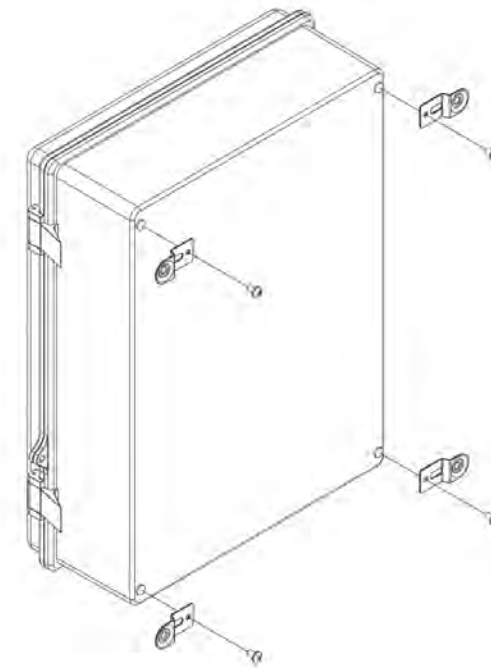

Figure 4
Step 4 – Attach the (4) four mounting feet to the back of the enclosure with the (4) four #10 - 32 screws provided (Figure 4).